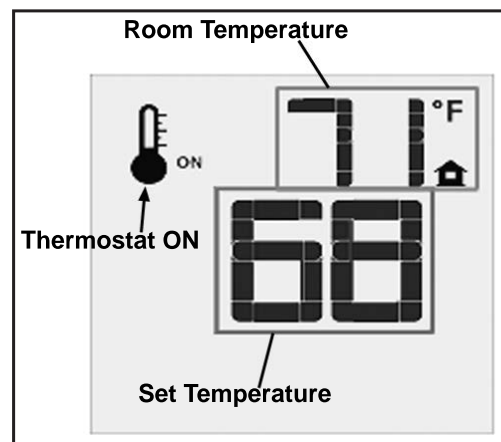
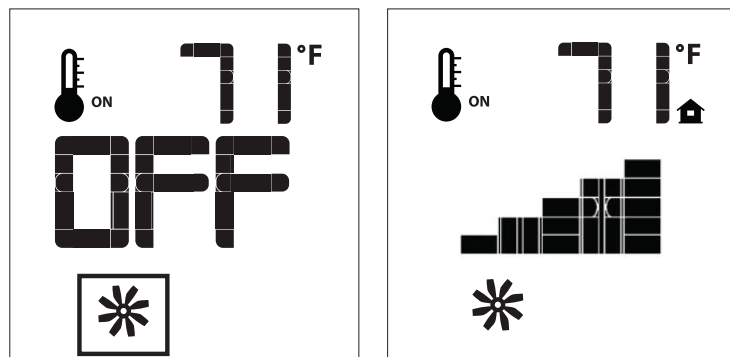

Figure 10: Remote Control Displays Set Temperature.
Figure 13: Fan Control
Press the ON/OFF Key on the Transmitter. The Transmitter LCD display will only show the room temperature and Icon (see Figure 10). A single “beep” from the IFC confirms reception of the command and both the pilot light (if the unit is not set to continuous pilot) and main burner will turn off.
The Remote Control can operate as a room thermostat. The thermostat can be set to a desired temperature to control the comfort level in a room. To activate this function, press the Thermostat Key (see Figure 5). The LCD display on the Transmitter will change to show that the room thermostat is “ON” and the set temperature is now displayed (see Figure 10). To adjust the set temperature, press the Up or Down Arrow Keys until the desired set temperature is displayed on the LCD screen of the Transmitter.
The Q1CI comes with a convection fan that can be controlled with the Transmitter. The fan speed can be adjusted through six (6) speeds. To control the fan press the MODE key (Figure 5) to index to the fan control icon (Figure 13). Use the UP/DOWN arrow keys to turn on, off, or adjust the fan speed (Figure 10). A single beep from the IFC will confirm the command has been received